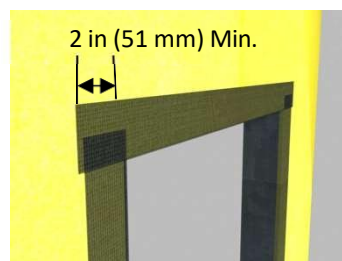

Fig. 4
- 5) Install the AquaFlash System at the head overlapping the jamb pieces a minimum of 2 in (51 mm) – Figure 4.